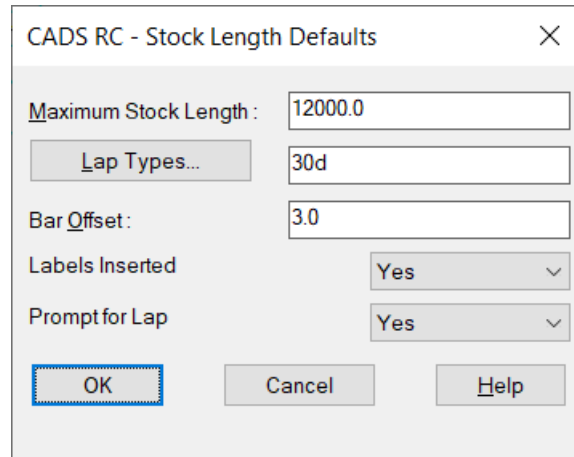

Figure 8.6:1 Stock Length Defaults dialog
- ▶ If you type **S** for Stock the dialog shown in figure 8.6:1 below is displayed. This allows you to amend the *Maximum Stock Length* value and if you then attempt to stretch the bar(s) over this value CADS RC will automatically invoke the *Over Stock Length* feature.